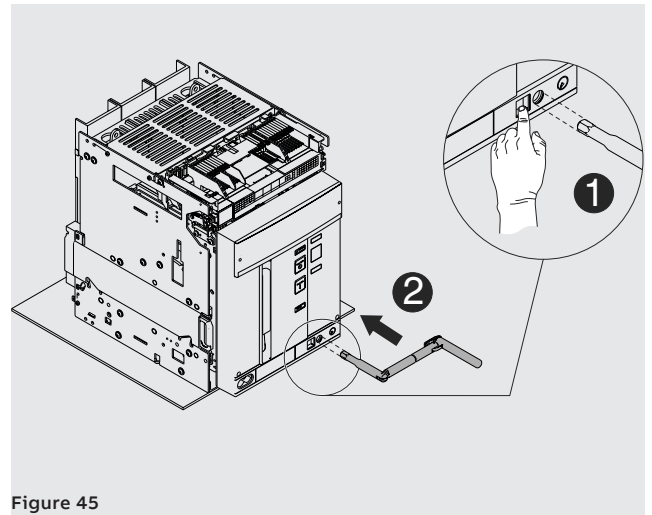

Figure 45
9. Press the lock pushbutton and fit the handle into the moving part. In this phase, the moving part will still be in the **DISCONNECT** position. See Figure 45.